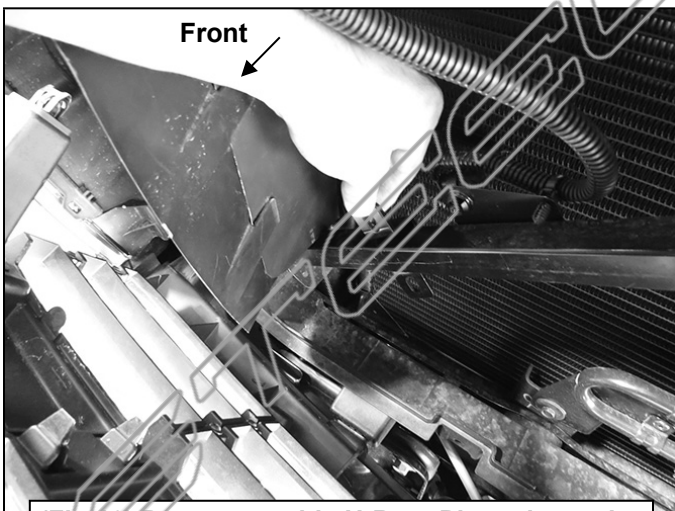
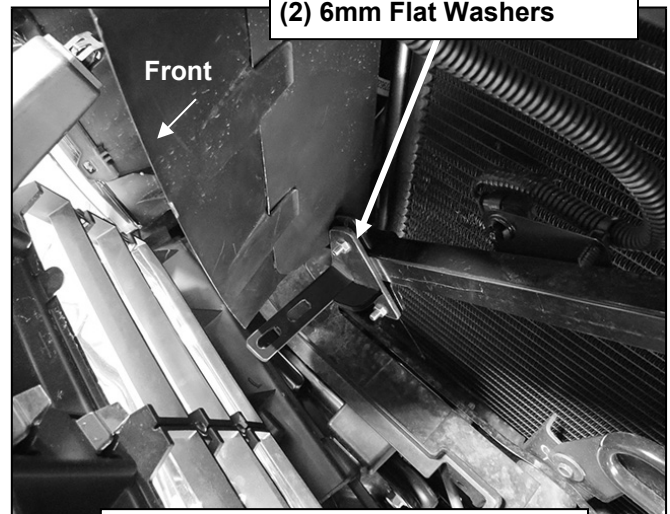

**Fig 8) Passenger side square tube support between grille and radiator pictured**
**Fig 9) Passenger side top Brackets pictured**
7. Locate the square tube support braces running up at an angle from the top of the frame channel to the bottom of the hood release mechanism, **(Figure 8)**. Select the passenger side Inner Top Bracket and (1) "U" Backing Plate, **(Figure 9)**. Hold the "U" Bracket up to and around the back of the square tube, **(Figure 10)**. Bolt the Inner Top Bracket to the "U" Bracket with (2) 6mm x 25mm Hex Bolts, (2) 6mm Lock Washers and (2) 6mm Flat Washers, **(Figure 11)**. Leave loose at this time.
8. Select the passenger side Outer Top Bracket, **(Figure 9)**. Insert the Outer Bracket through the grille and up to the Inner Top Bracket assembly, **(Figure 12)**. Bolt the Outer Bracket to the top of the Inner Bracket with (2) 8mm x 25mm Hex Bolts, (4) 8mm Flat Washers and (2) 8mm Nylon Lock Nuts. **NOTE:** Slide the Bracket assembly up or down the square tube to match up with the Outer Top Bracket. Leave hardware loose at this time.